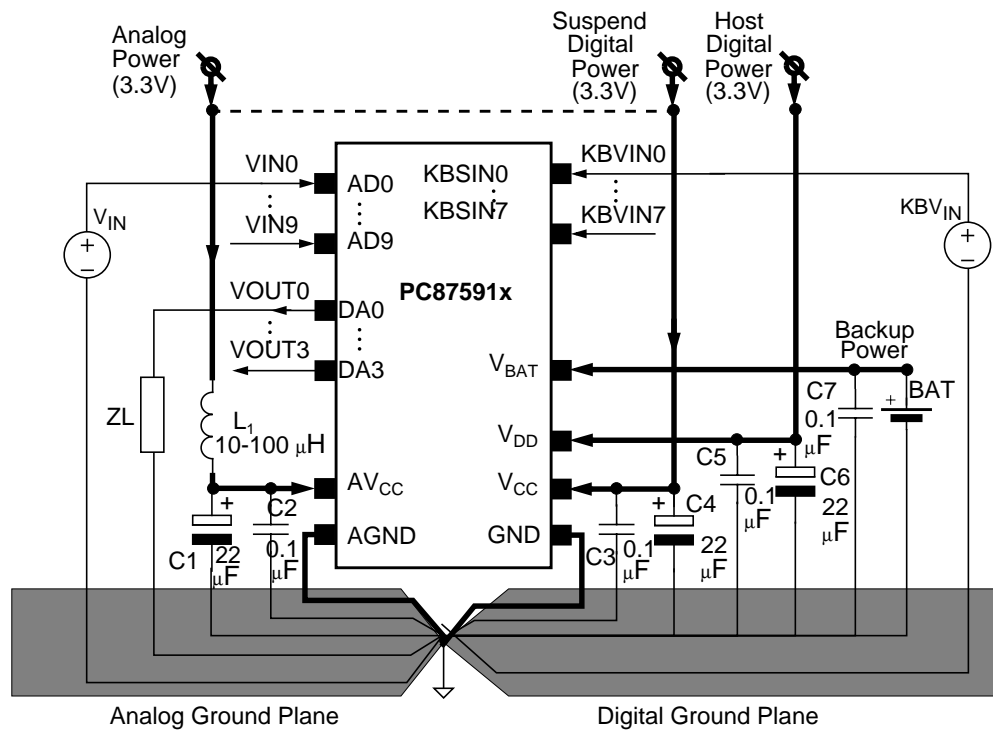

Figure 11. PC87591x Power Supply Connection
The following directives are recommended for the PC87591x power and ground connections (see Figure 11 for the power supply connections):
- The ground reference of the voltage input signals to the ADC module ( $V_{IN0-9}$  in Figure 11) should be connected to the AGND plane close to the PC87591x.
- The ground reference of the voltage output signals from the DAC module ( $V_{OUT0-3}$  in Figure 11) should be connected to the AGND plane close to the PC87591x.
- The ground reference of the voltage input signals to the ACM module ( $KBV_{IN0-7}$  in Figure 11) should be connected to the GND plane close to the PC87591x.
The analog supply pin,  $AV_{CC}$ , should be connected to a low-noise power supply that has the same voltage as the digital supply (3.3V). If the  $AV_{CC}$  pin is connected to the same power supply as the  $V_{CC}$  pin, it is recommended to use an external LC or RC filter for the  $AV_{CC}$  pin. An example of an LC filter [ $L_1$  and  $(C_1+C_2)$ ] is shown in Figure 11. An RC filter is obtained by replacing  $L_1$  (in Figure 11) with a  $10\Omega$  resistor (not shown in the figure).
The following decoupling capacitors should be used to reduce power supply deeps, ground bounce and EMI (refer to Figure 11 for the position of capacitors, e.g., C1, C2, etc.):